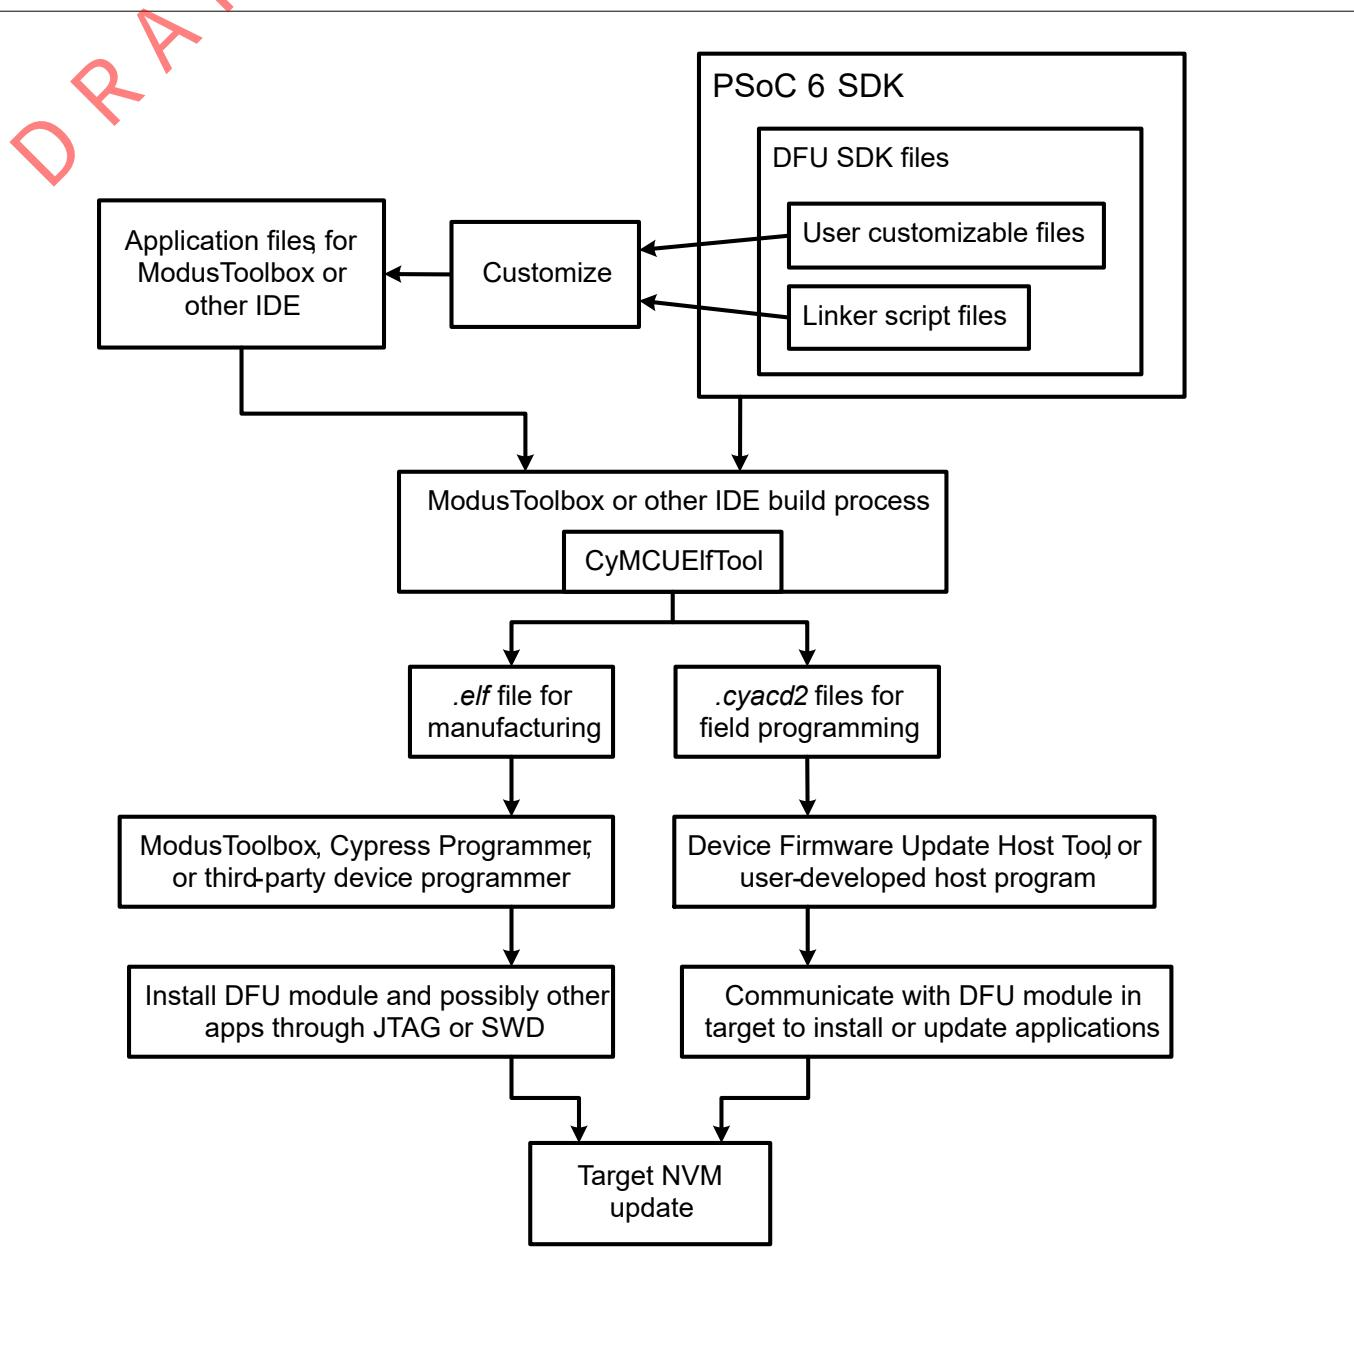
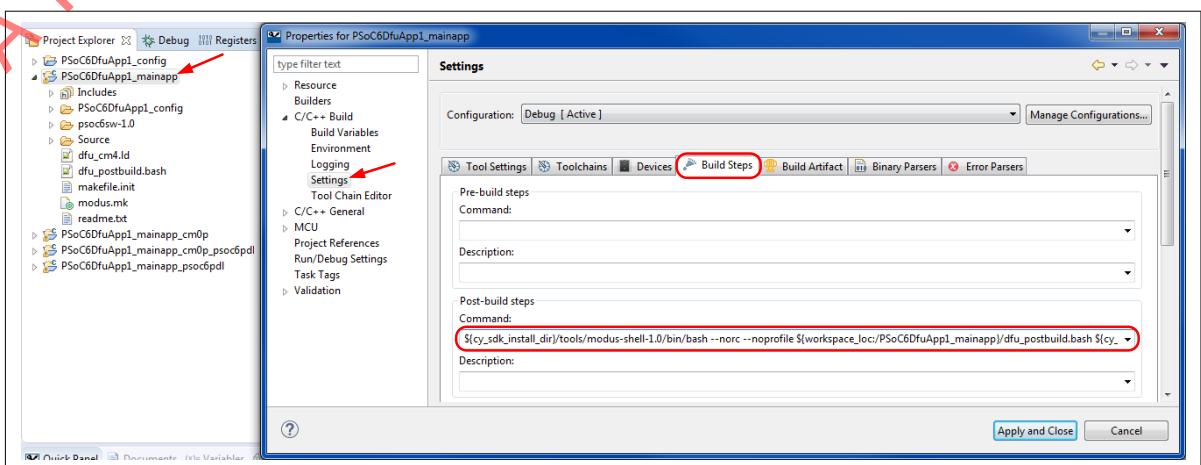

Figure 568 ModusToolbox™ application build and DFU process diagram
Figure 572
- CyMCUElfTool: cymcuelftool.exe in the folder ... \ ModusToolbox_1.0 \ tools \ cymcuelftool1.0 \ bin. This program is called as part of building an application, as Figure 568 shows. (The diagram is similar for PSoC™ Creator and other IDEs.)
5. For downloadable application projects, add a post-build command to call the CYPRESS™ utility program cymcuelftool.exe, as Figure 572 shows. **cymcuelftool** is included with your ModusToolbox™ installation. It generates a *.cyacd2 file, which is downloaded by the DFU host (see Figure 568). The post-build command is done only for the CM4 binary. cymcuelftool combines the CM4 (_mainapp) and CM0+ (mainapp_cm0p) projects to create the output .cyacd2 file
Then change the _mainapp project properties to add command text similar to the following, as Figure 572 shows